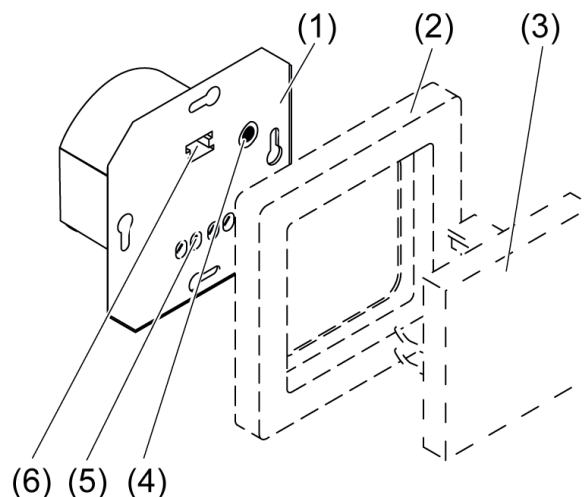

Figure 1: Device components
- Press button **Dimm-Mode** (4) (figure 1) for longer than 4 seconds.